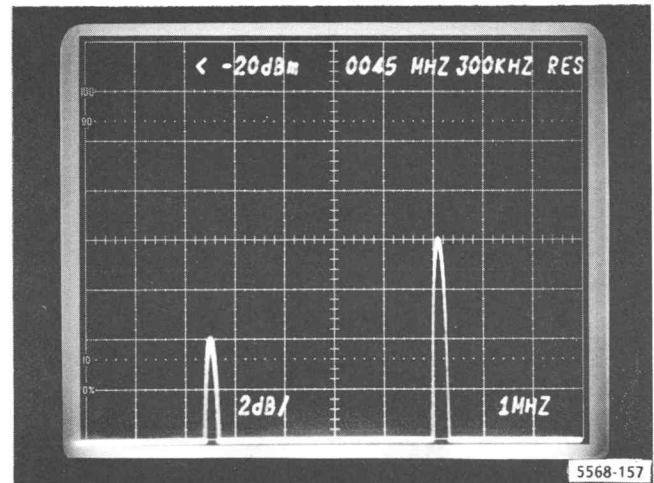

Fig. 4-22. Aural carrier 4 dB below unmodulated visual carrier.
- a. Connect the test modulator IF output to the spectrum analyzer rf input. Ensure there is no video input to the test modulator. Set the test modulator aural and visual carriers to on, and set the aural carrier level to 4 dB below the unmodulated visual carrier. See Fig. 4-22.